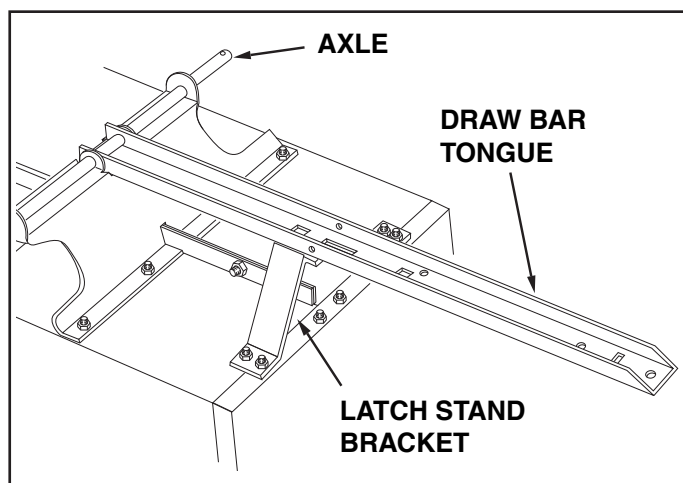

FIGURE 7
- Lower the cart to rest upside down on its top flange with the wheel support facing up. See figure 7.
- Lay the drawbar tongue (open side facing up) onto the Wheel Support and the Latch Stand Bracket. Slide the axle through the wheel support and the tongue. See figure 7.